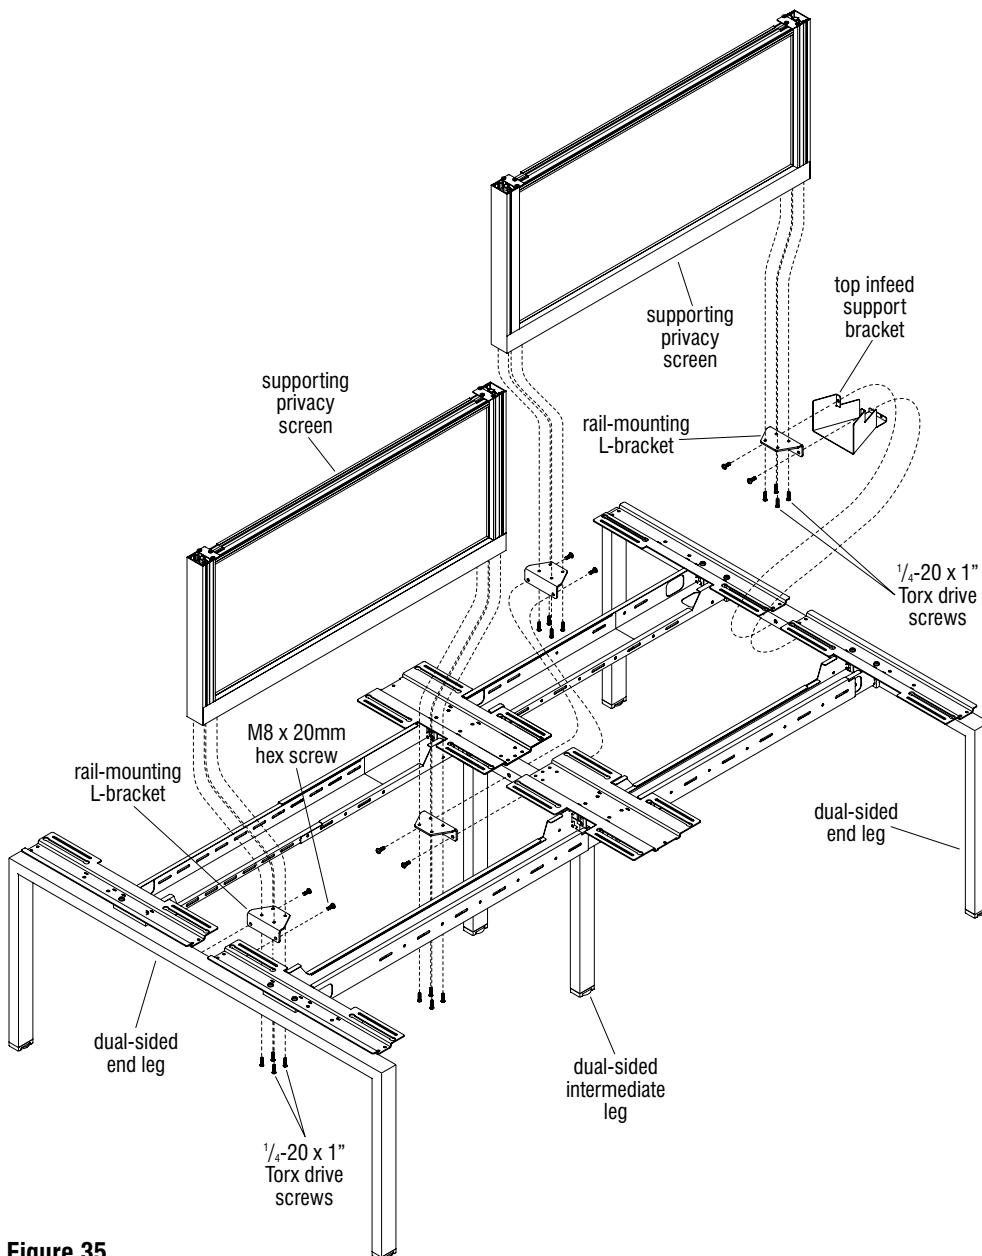

Figure 35
**Important:** At locations where a top power infeed is specified, a "top infeed support bracket" must attach to the inside of a support frame at the power infeed location before a "rail mounting L-bracket" can be installed (Figure 35).
1. Begin by installing four rail mounting L-brackets, one at each of the two center locations on dual-sided end legs and two on each of the center locations on the dual-sided intermediate leg as illustrated. Secure the rail mounting L-brackets using two M8 x 20mm screws per bracket. If top infeed support bracket is specified, install that under the rail mounting L-bracket at this time (Figure 35).
2. Set the supporting privacy screen assembly onto the installed rail mounting L-brackets. Align privacy screen so that it is centered on the frame. With the threaded channels in the rail aligned with the holes on the installed rail-mounting L-brackets, insert four 1/4-20 x 1" Torx screws through each L-bracket and tighten to secure (Figure 35).